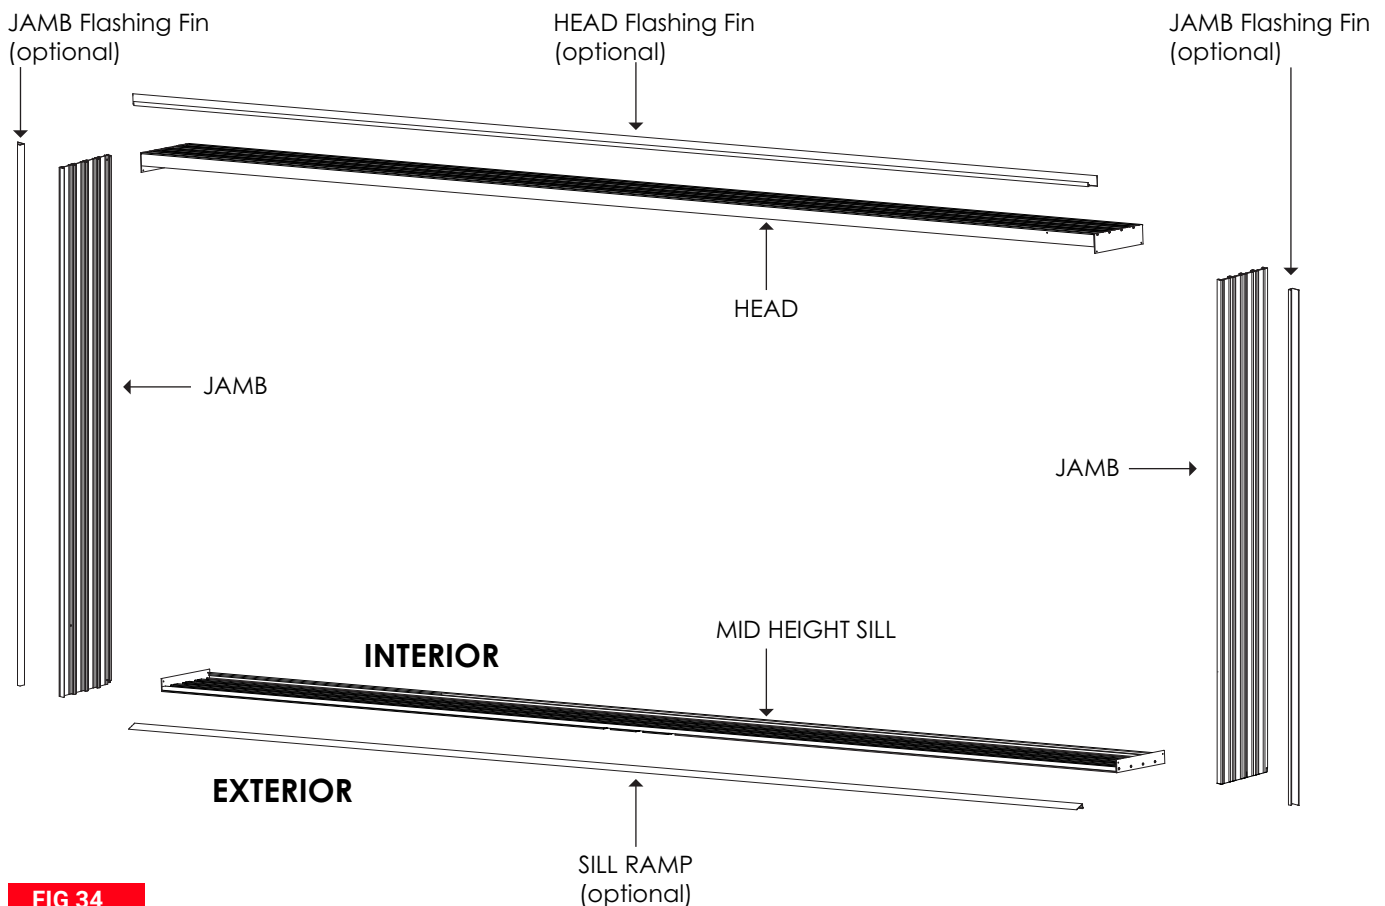

FIG 34
- Identify frame component's features. **[FIG 34]**